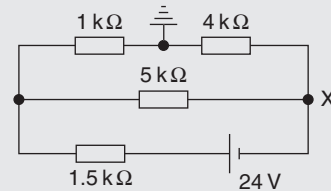

Figure 5.50
- Problem 17.** For the circuit shown in Fig. 5.50, calculate (a) the voltage drop across the 4 kΩ resistor, (b) the current through the 5 kΩ resistor, (c) the power developed in the 1.5 kΩ resistor, (d) the voltage at point X w.r.t. earth, and (e) the absolute voltage at point X.